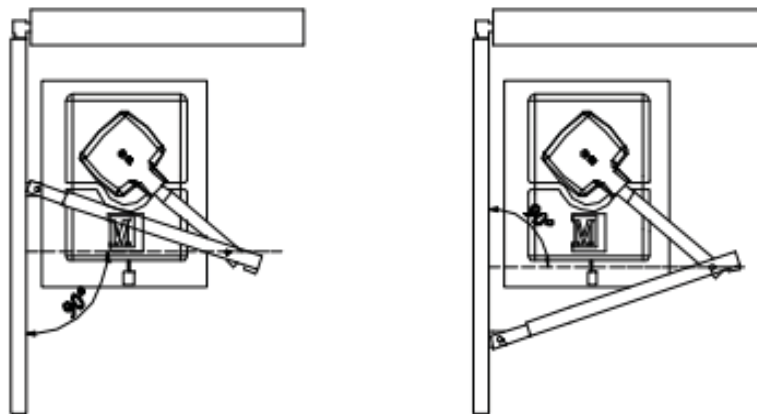

Figure 9
2. Turn left or right on both limit cams to adjust the position of where the gate opens and closes. Figure 9